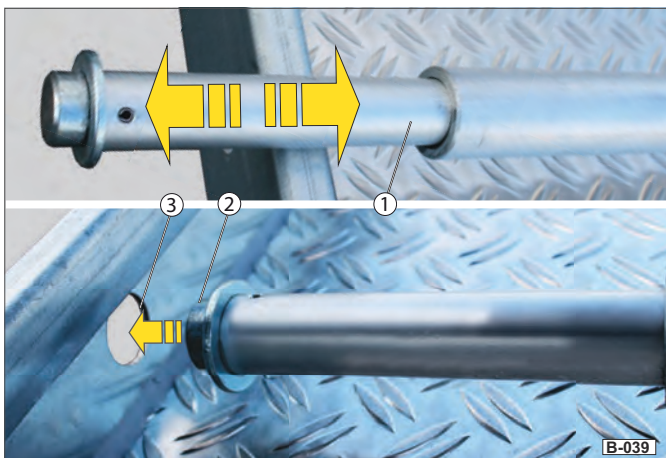

Fig. 45 Using wheel stops
- ▶ Push the pin (Fig. 45 /2) of the sprung side (Fig. 45 /1) into the holes in the steel skirt (Fig. 45 /3).